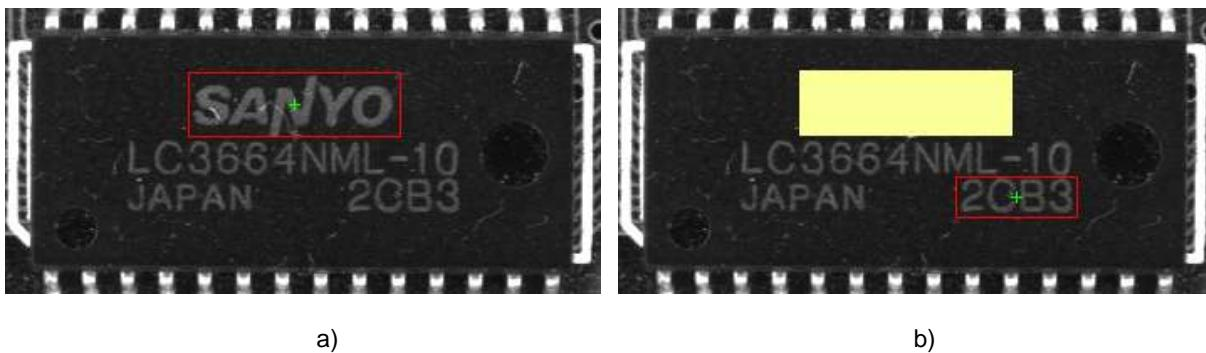

Figure 6.81: Drawing an ROI of rectangles.
You can modify the rectangle by dragging its sides or corners. Make the rectangle match the big label on the chip (see figure 6.81 a).
- Repeat the last step to create another rectangle and make it match the lower part of the label (see figure 6.81 b).